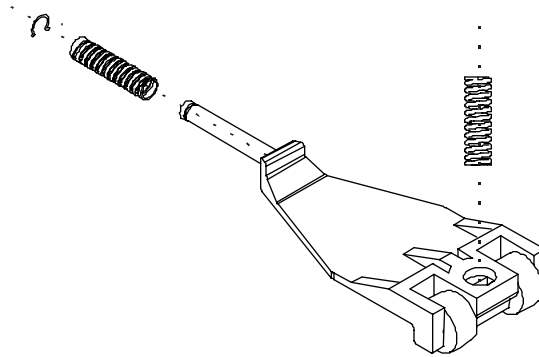

Figure 5-23. Pinch Roller.
8. The pinch rollers are held on by a small C clamp located on the back of the Y-Arm Assembly. See Figure 5-23. While holding the pinch roller, remove the C clamp and move the pinch roller towards the front of the Y-Arm Assembly until it clears the back of the Y-Arm Bracket.